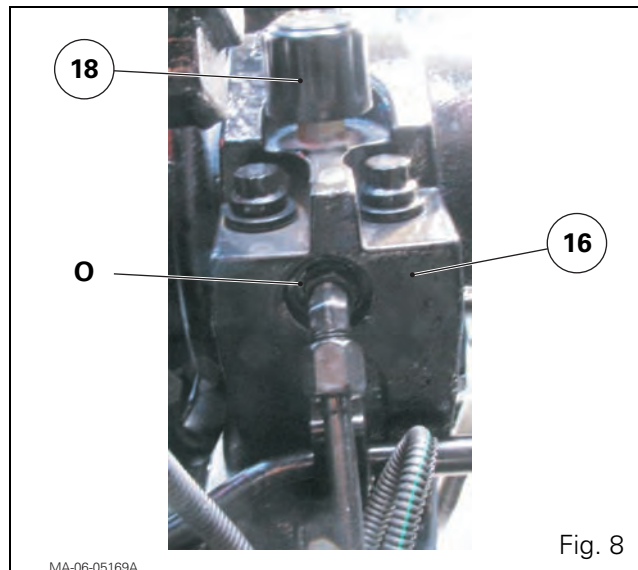
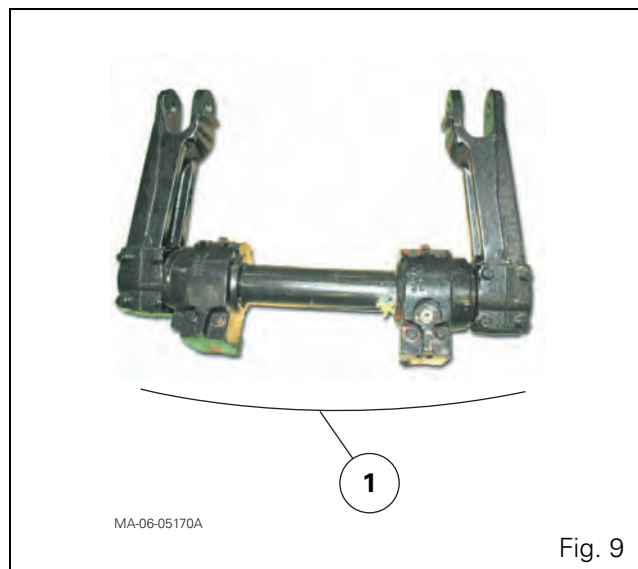

Fig. 8
Fig. 9
8. Remove the left-hand support/bearing (16) (Fig. 8):
- the breather (18);
9. Unscrew and remove the screws (9) from each support/bearing (2) (16).
10. Sling together and remove the assembly (1) (Fig. 9) (lift arm/shaft and supports/bearings) using a local sling or two suitable straps.
11. Remove the O'ring (19). Discard it.
12. Place the assembly (1) (lift arm/shaft and supports/bearings) in a spacious transit area (Fig. 9).
13. Release and remove the screws (6).
14. Note the angular position of the lift arms (right-hand (5) and left-hand (15)) on the shaft (7). Remove them.